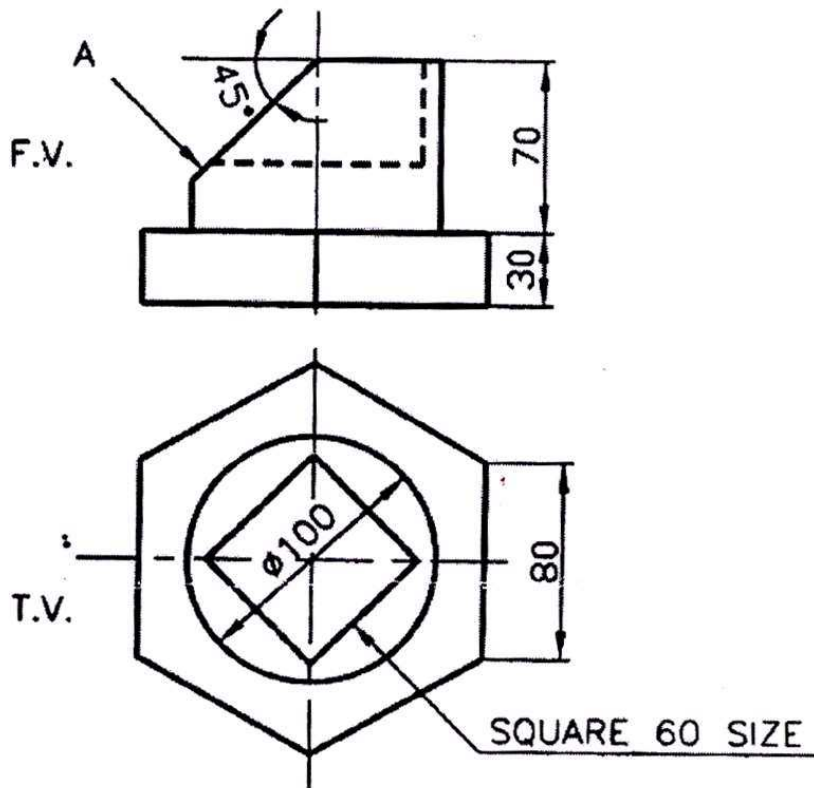

Fig. 3.
5. Draw the Front View, Top View and an Auxiliary View which will show the true shape of the surface 'A' for the object shown in the following Fig. 3. [3+4+8=15]